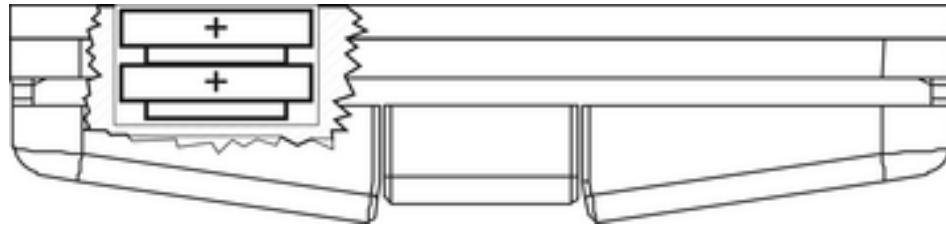

Figure 6: Insert batteries
- Insert new batteries in the battery compartment. Observe polarity: the positive pole of the batteries must be at the top (figure 6).